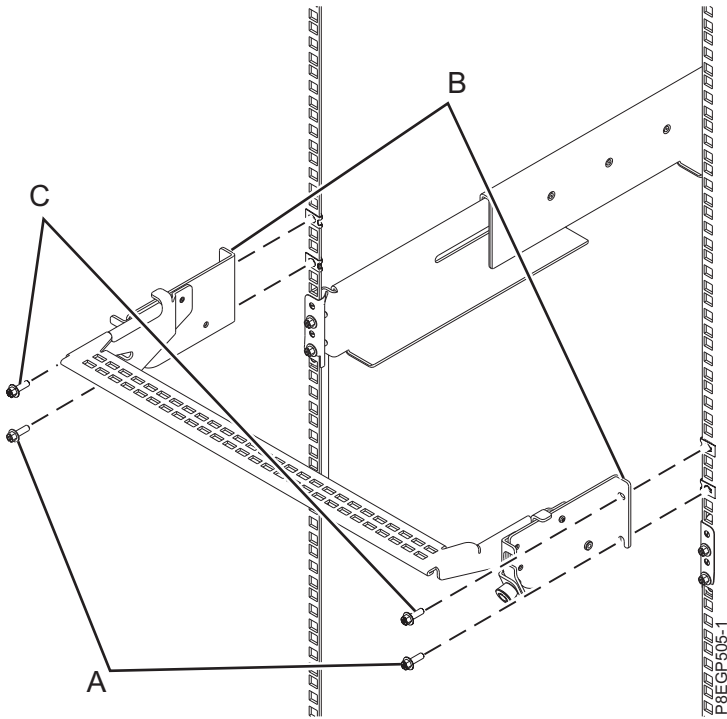

Figure 11. Installing the cable management bracket
- a. At the rear of the rack, partially tighten two M5 screws (**A**) directly above the drawer rail clamps where nut clips are installed. These two screws become the bottom screws that support the cable management bracket against the rack. See Figure 11 on page 14.
- c. Align the bracket so that its mounting flanges (**B**) align with the top holes in the rack flanges, as shown in Figure 11 on page 14.